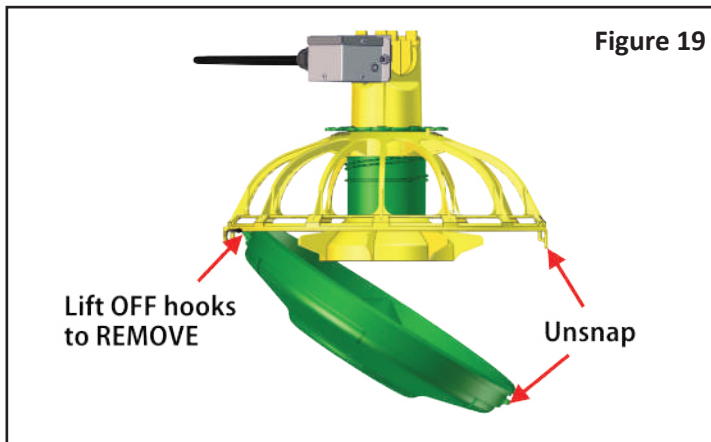

Figure 19
4. Remove pan from grill, as shown in Figure 19.